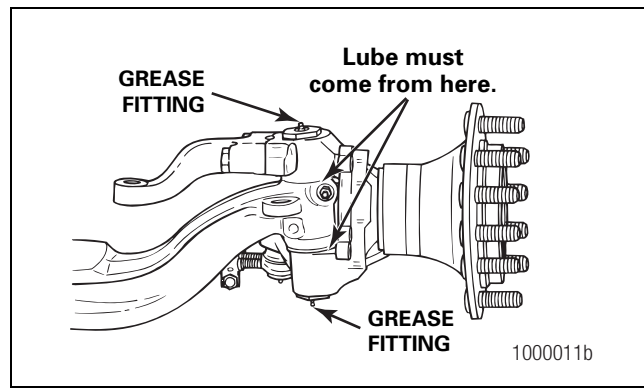

Figure 9.9
5. Force lubricant into the upper and lower king pin grease fitting caps until new lubricant flows from between the upper axle beam end and the knuckle, and the lower axle beam end and the knuckle. Figure 9.9.